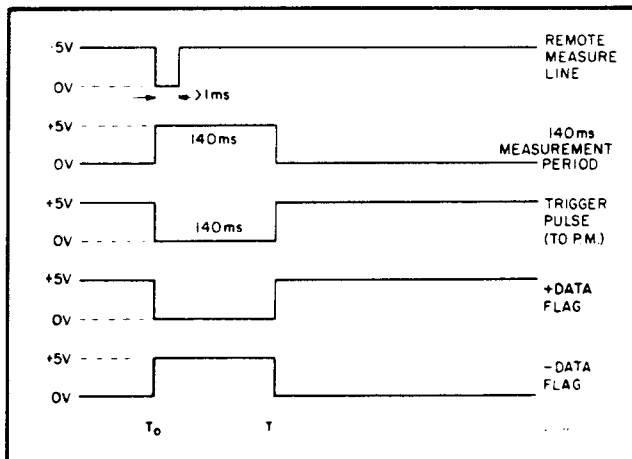

Figure 3-11. Flag Timing Non-Delayed Mode.
Mode line in a "true" condition (gnd. or -0.5 V to +0.4 V). When the Trigger Mode line is grounded, the timing sequence is in the Non-Delayed Mode which operates as shown in Figure 3-11.
**3-84. Non-Delayed Mode.** In Figure 3-11, the Remote Measure line is pulled low at T0 by the external controller. This immediately triggers the panel meters and sets the + and - Data Flags. At the end of the 140 ms measurement period (T1), the Data Flags are reset to indicate that a reading has been taken.